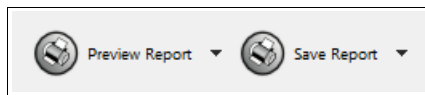

Figure 4-33 Reset CHPID Assignments
2. The Reset CHPID Assignments window opens with Reset choices (see Figure 4-33). For the example, select the following two options and then, click **OK**: